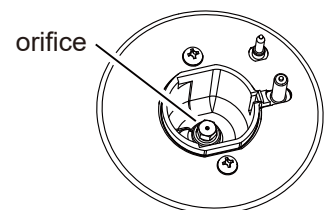

Fig 5
- Tighten until snug. **Do not overtighten.** (See Fig. 5)